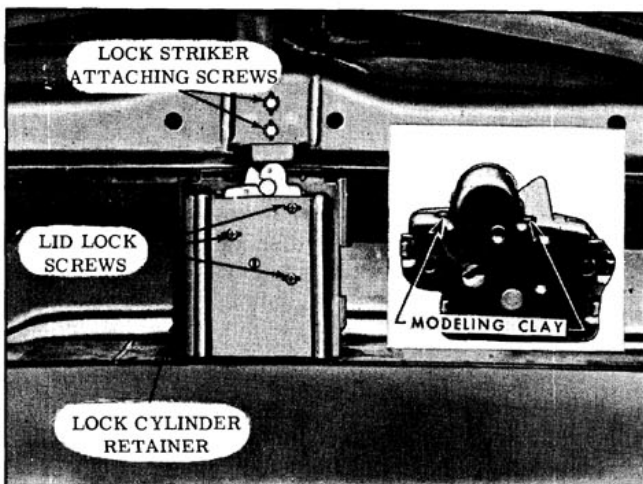

Fig. 16-112 Lid Lock and Striker
3. Remove lid lock attaching screws and remove lock assembly from body. (Fig. 16-112)
2. Remove striker attaching screws and remove striker. (Fig. 16-112)
1. Insert a small quantity of modeling clay on frame of lock at both sides of the lock bolt. (Fig. 16-112) Close lid with moderate force.